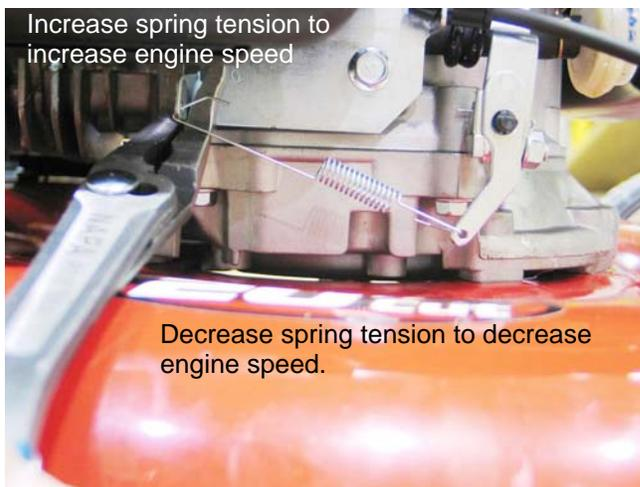

Figure 4.57
17. Adjust the top no-load speed by slightly bending the bracket that the governor spring connects to. The bracket is visible under the air filter. See Figure 4.57.